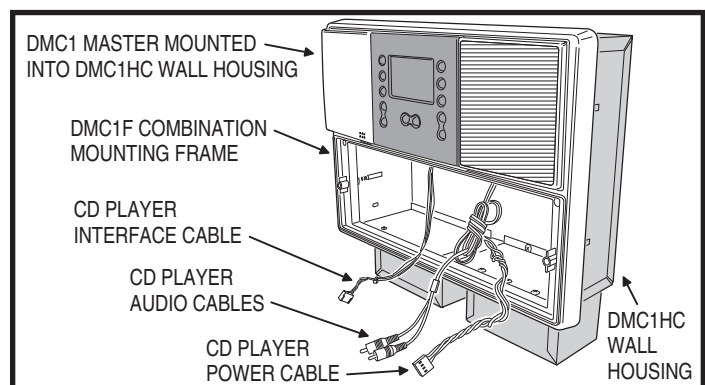

Figure 24. dmc1F Frame with Master Station, Ready for CD Player
7. Secure the dmc1 Master Station to the wall housing using the two long screws provided (see Figure 24). DO NOT OVERTIGHTEN THE SCREWS THE FRAME MIGHT DISTORT OR CRACK!